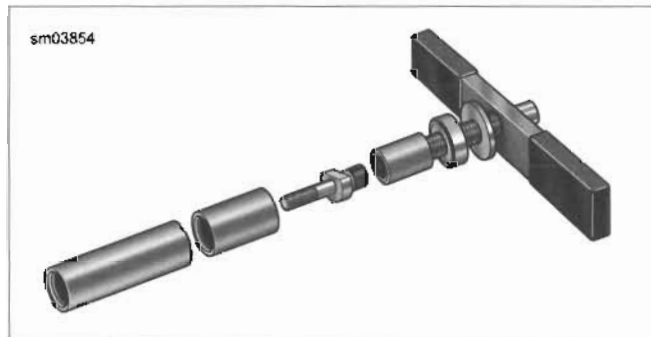

Figure 3-140. Sprocket Shaft Bearing Installer
4. See Figure 3-140. Obtain the SPROCKET SHAFT BEARING INSTALLER (Part No. HD-97225-55C). Assemble tool as described below.